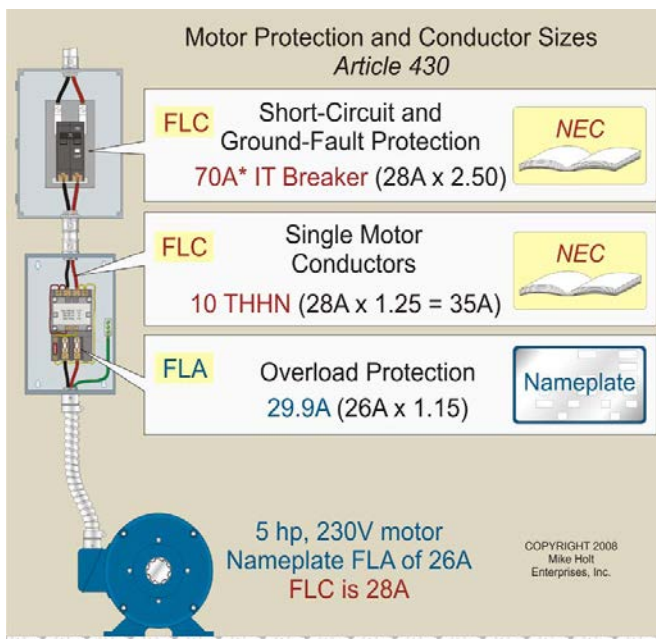

Figure 7-22
**Question:** If an inverse time circuit breaker is used for short-circuit and ground-fault protection, what size circuit breaker and conductor is required for a 5 hp, 230V, single-phase motor having a nameplate current rating of 26A? **Figure 7-22**